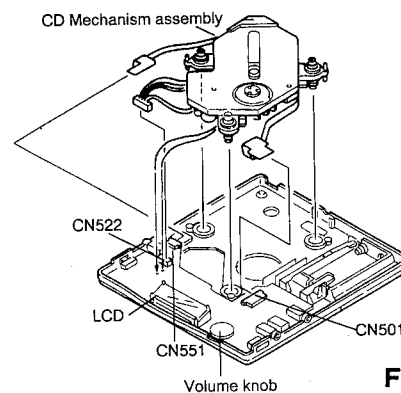

Fig. 4
■ CD Mechanism Assembly (Refer to Fig. 4,5)
■ Main P. C. board assembly (Refer to Fig. 4,5)